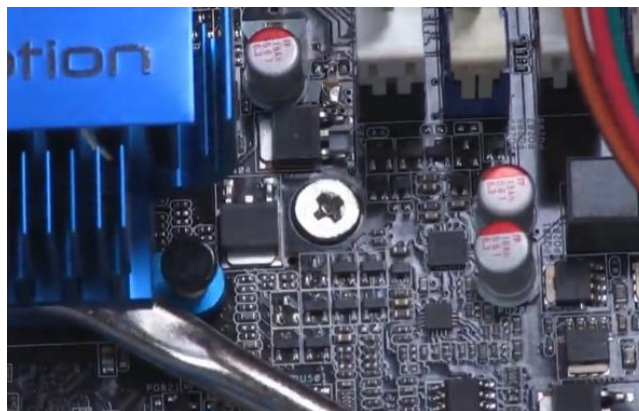

FIGURE 13: TESTOUT CORP. (2020, JANUARY 14).
2.3.2. With a Phillips head screwdriver, secure the motherboard to the standoffs by installing the fine thread screws that came with the motherboard (See Fig. 13). Steadily screw them in so that you do not scratch and potentially damage the motherboard. Make sure the motherboard is firmly in place, but do not overtighten or the motherboard could get damaged.